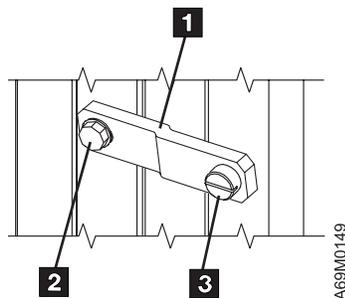

Figure 36. Expansion Frame Attachment Bracket – Positioning
- ___ 51. Refer to Figure 36. Locate the three frame-to-frame attachment brackets **1** that are factory-mounted on the left side of the expansion frame. Locate screws **2** P/N 1624790 provided in the ship group. You will install them in the following steps.